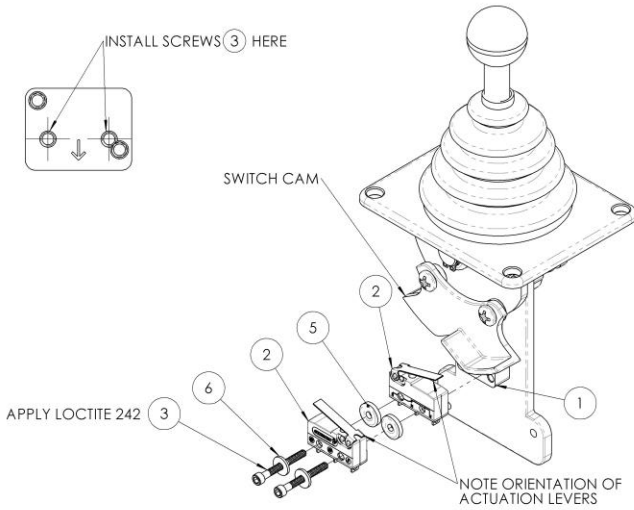

Figure 19: Placement of microswitches in the joystick assembly.
7. Apply Loctite 242(Blue) to the X2 socket head cap screws ④.
8. Install bracket ① with screws ④ onto the joystick support 7165-0002, ensuring the engraved arrow is correctly orientated and the correct holes are used.
9. Refer to Figure 19 for the next several steps. Note the orientation of the lower and upper microswitches ② shown in Figure 19.